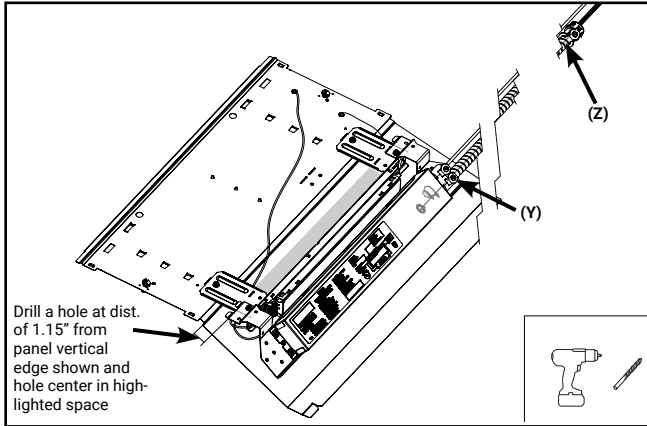

Figure 3 - Drilling 9/16" diameter hole for test switch installation on backside of fixture
- i. If Test Switch F-(1) component in Fig 1. has to be mounted someplace other than back of fixture (as shown in Figs 3 & 4), mount the Test Button / Indicator Light / Laser Input on a tile or a different place such that the indicator light is visible once the fixture is installed. Proper mounting is required for accessibility and functionality of the laser input testing feature and testing of EZ key battery disconnect.